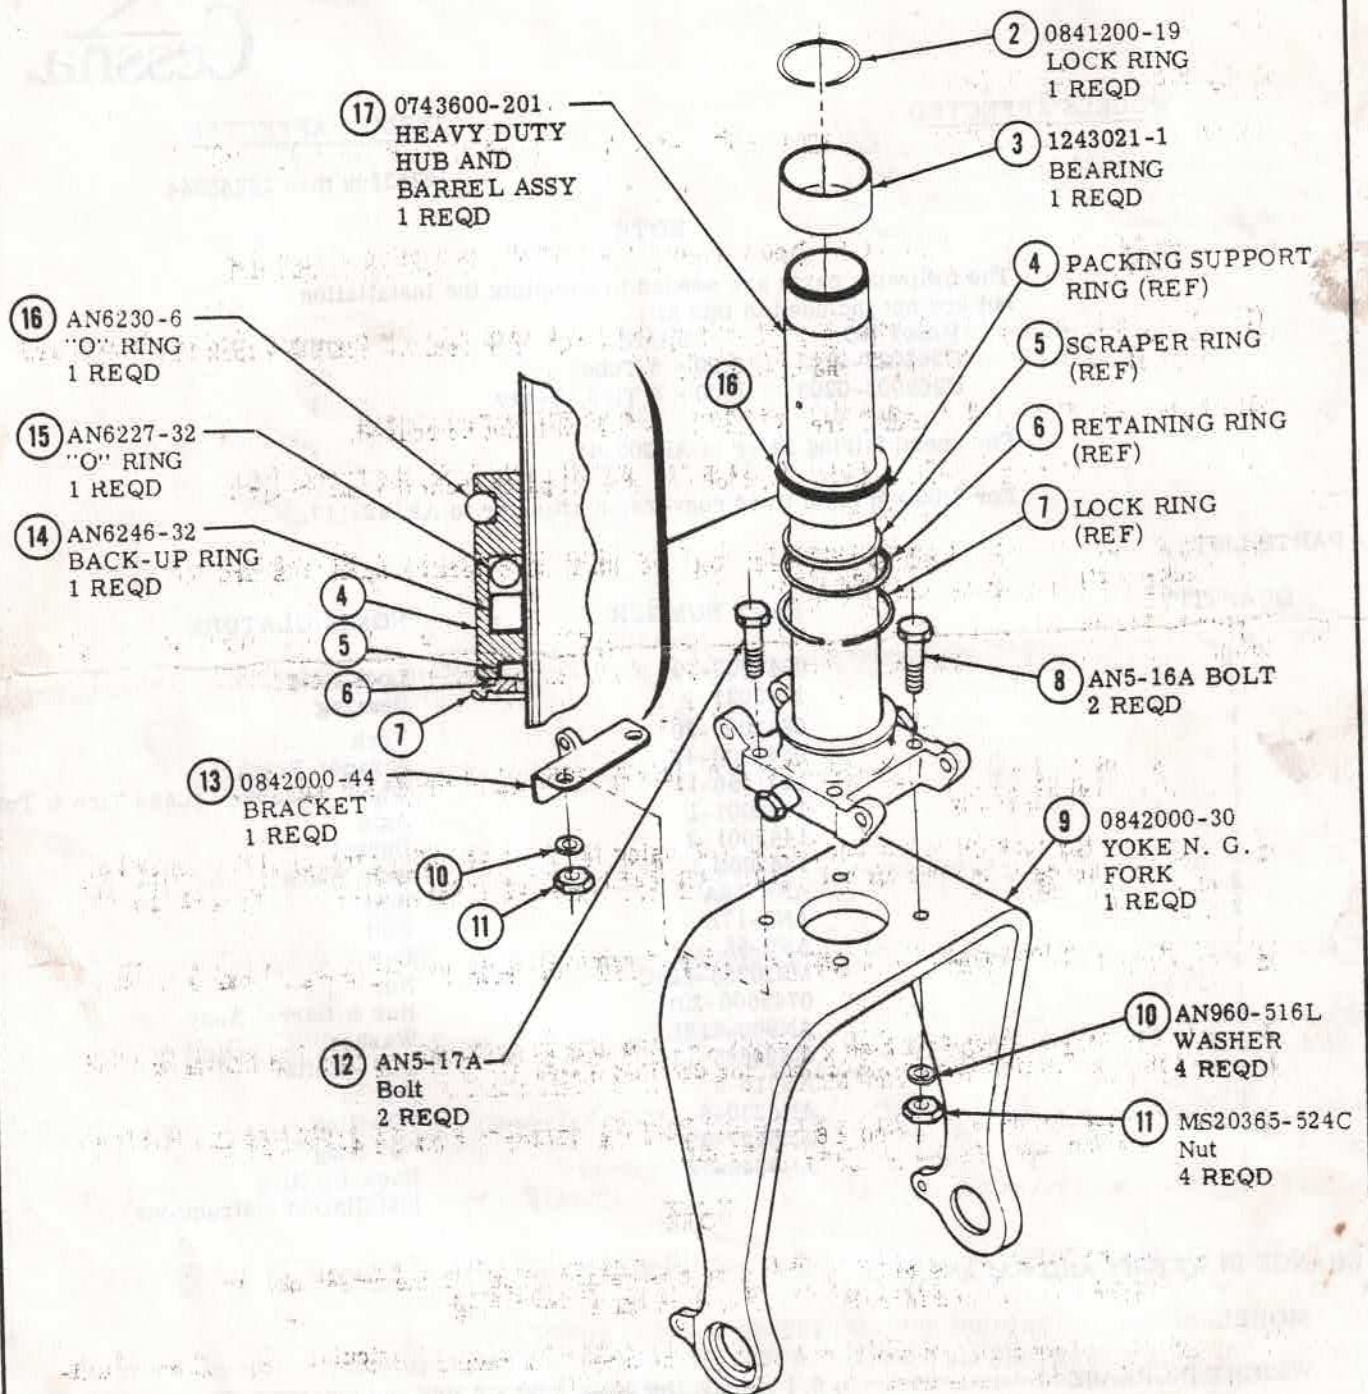

Figure 1. Heavy Duty Nose Wheel, Fork and Barrel Assembly
- a. (Refer to Figure 1) Remove nose wheel with fork and barrel as one assembly as follows:
- (1) Release lock ring (7) through access hole in the strut, then remove complete fork and barrel assembly, with the wheel, from the nose gear.
- (2) Remove nose gear wheel and tire assembly. These will not be reused.
- (3) Remove lock ring (2) and bearing (3), then remove all parts from the barrel (17).
- (4) Clean and inspect all parts removed. Replace worn or defective parts. Discard "O" rings, back-up ring, bearing and lock ring.
- b. (Refer to Figure 1.) Assemble parts removed from barrel on heavy duty hub and barrel (17) as follows: (Refer to Service Manual for important lubrication instructions during assembly.